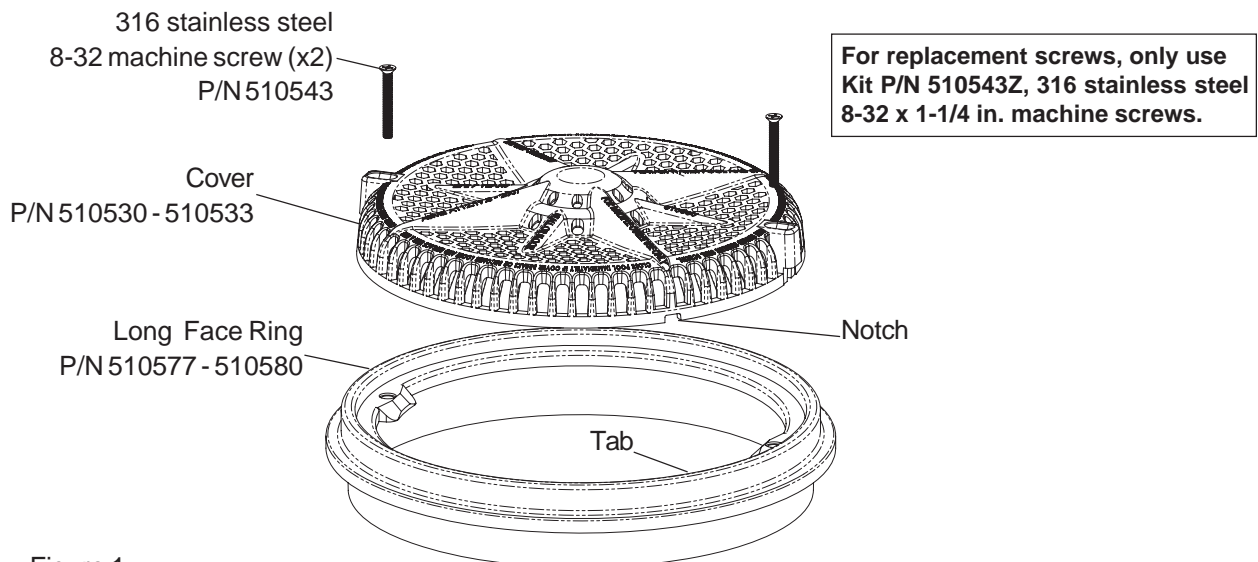

Figure 1
- Mount the drain cover on top of the face ring/suction outlet (see Figure 1).
- Install the two (2) 316 stainless steel 8-32 machine screws (provided) into the holes in the top of the cover. Using a No. 2 Philips head screwdriver, tighten each retaining screw to a **torque value of 10.00 (minimum) to 15.0 (maximum) in/lbs** to secure the cover. DO NOT OVER TIGHTEN THE SCREWS. DO NOT ASSEMBLE WITH POWER TOOLS.